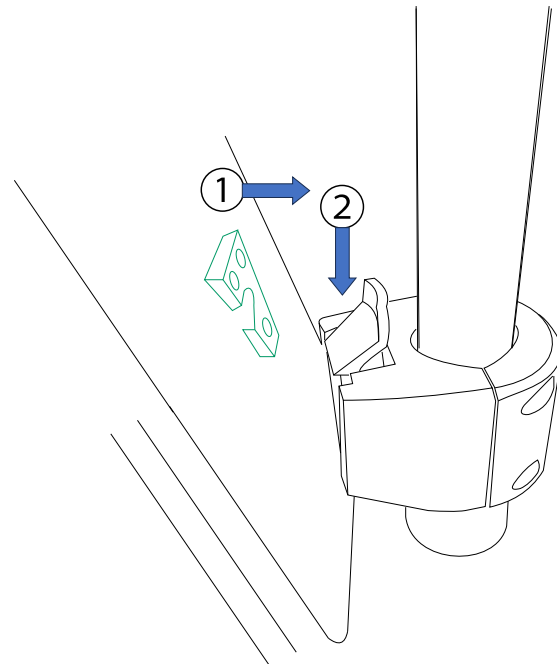

Figure 1-3 Insert v-mount into the Orbis Datalogger mounting bracket.
3. Attach Datalogger to the monopod by sliding the v-mount into the mounting bracket until it clicks. See Figure 1-3